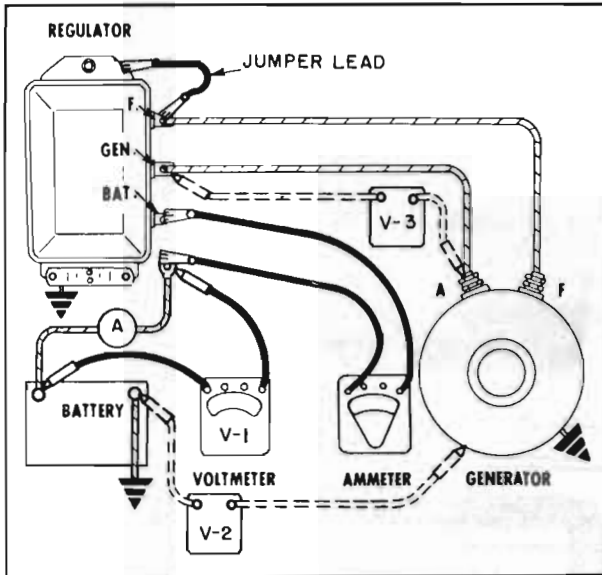

Figure 10-11—Testing Charging Circuit Voltage Drop
1. Make sure that all accessories are turned off and that ammeter and field jumper lead are in place. See Figure 10-11.
3. Measure the voltage drop at V-1, V-2 and V-3. See Figure 10-11. Readings V-1 and V-3 should not exceed .4 volt each. Reading V-2 should not exceed .1 volt.